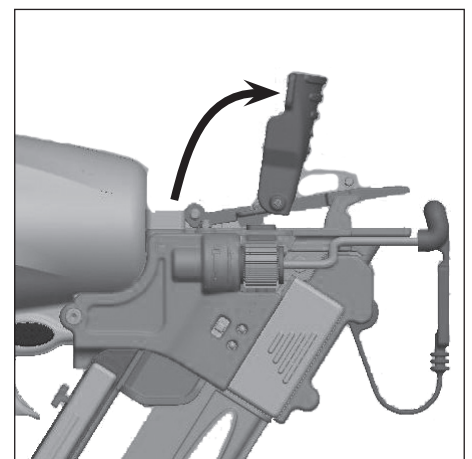

Figure 24 - Clearing a jam
**CLEARING A JAM FROM THE NAILER (See Figure 24)**